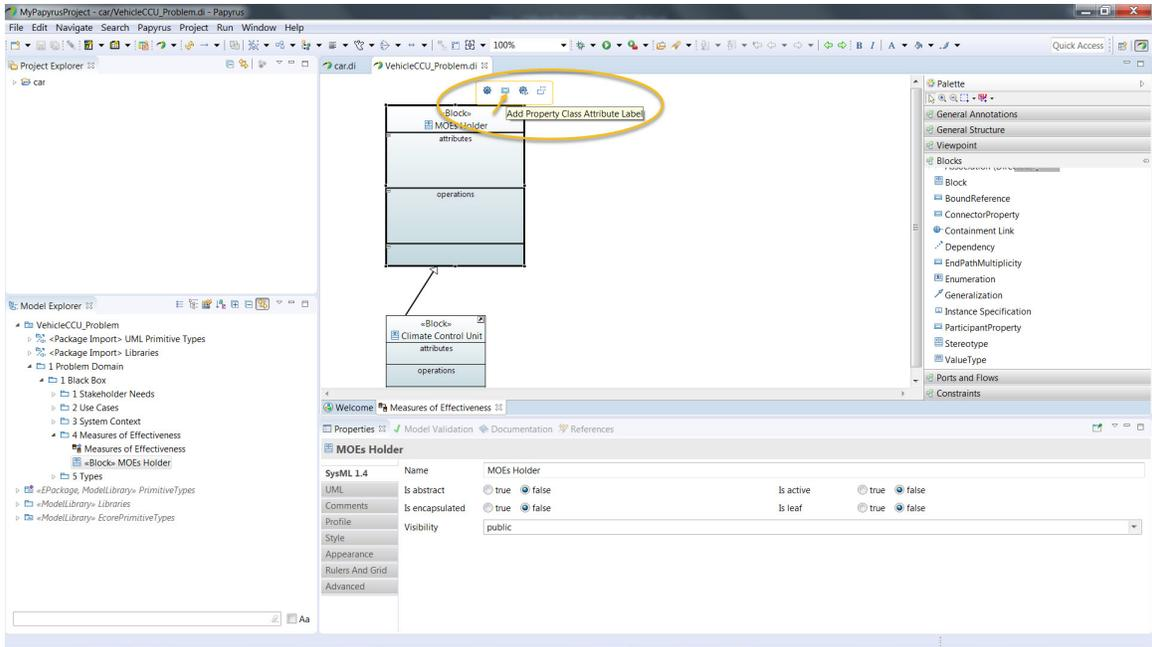
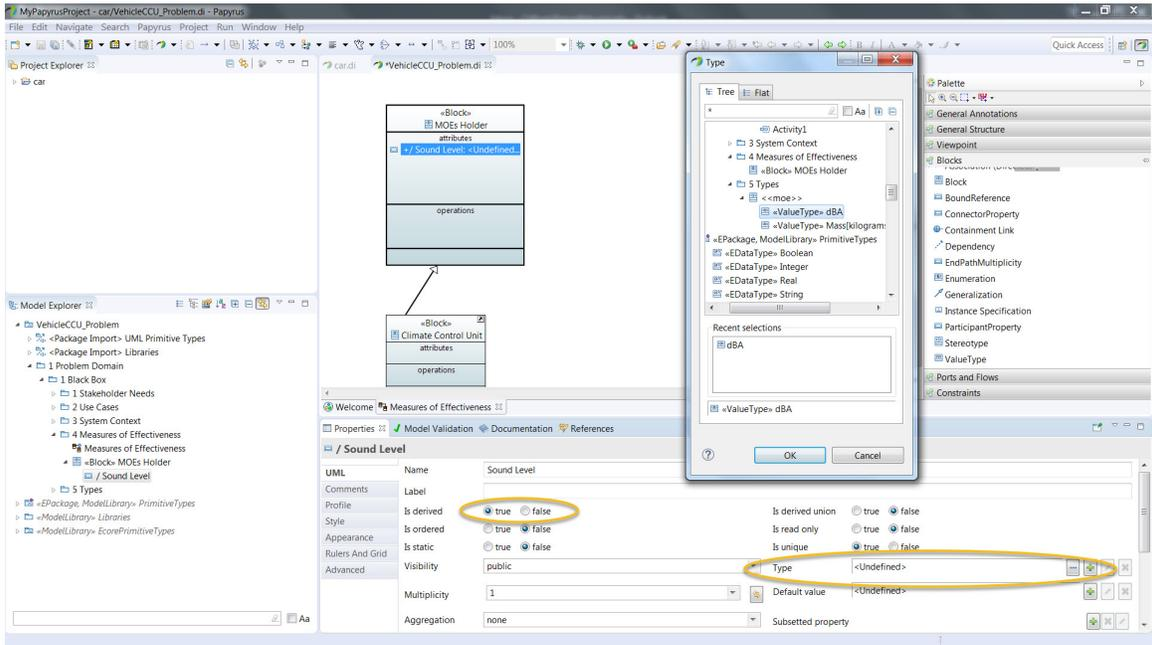

Figure 83: Class Attribute Pop-Up Menu.
Figure 84: Sound Level Attribute Properties.
- Now we will define our MOE attributes. Click on the *MOEs Holder* block and you should see a pop-up menu at the top of the block. Select **Add Property Class Attribute Label** (figure 83) and hit <Enter>. Go to the **Properties** window at the bottom of the screen and select the **UML** tab. In the **Name** field type *Sound Level*. Select **true** for the **Is derived** attribute. This means that the sound level will be a calculated value. Finally, in the **Type** field click on the three dots to the right of the field to open the pop-up menu to define the type. Select the *dBa* value type that we created in the *Types* package and then click <OK> (figure 84).